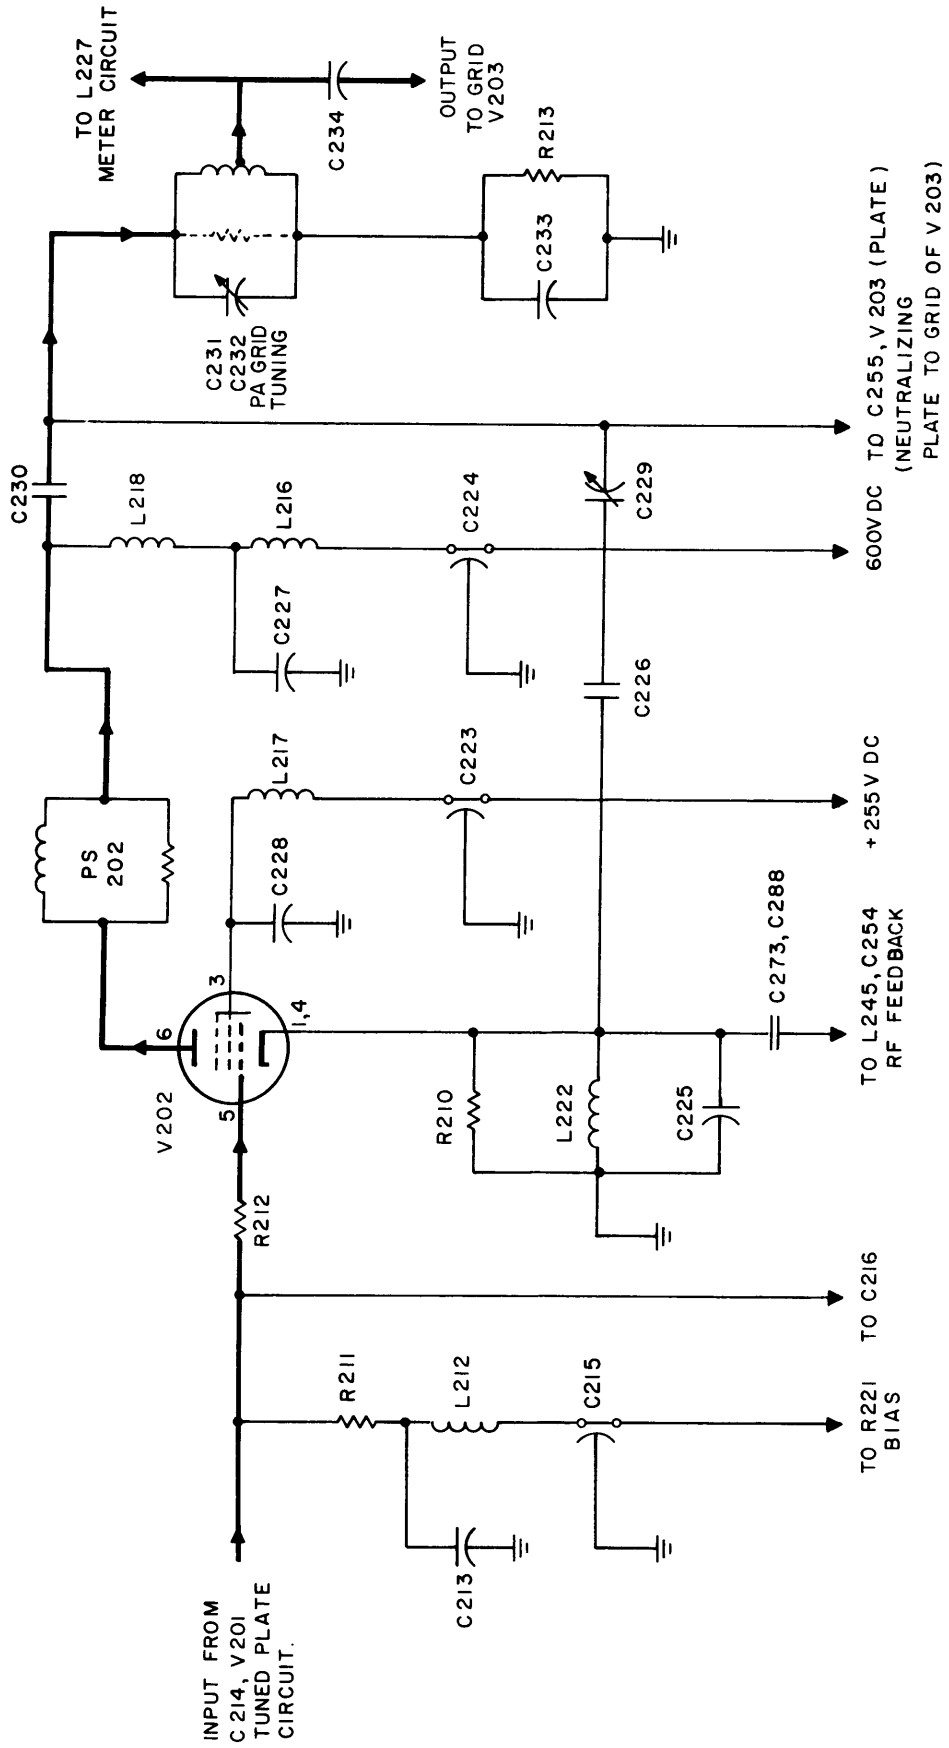

Figure 4-3. Simplified Schematic, Driver Stage V202, RFD
b. DRIVER STAGE, V202. (See figure 4-3.) - Tube 6146 is operated as a class AB₁ amplifier which drives the final stage to full output. PA GRID TUNING is the front panel control for the tuned plate circuit of V202.